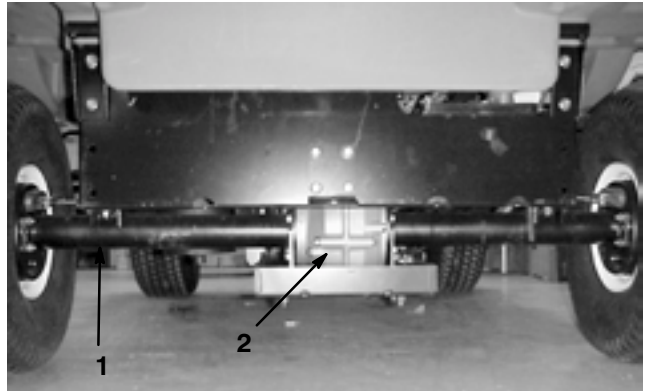

Figure 2
2. Jack rear of the vehicle under each rear axle tube. Do not jack vehicle below the transaxle case (Fig. 2).
2. Secure rear of the vehicle to the trailer at each rear axle tube (Fig. 2).